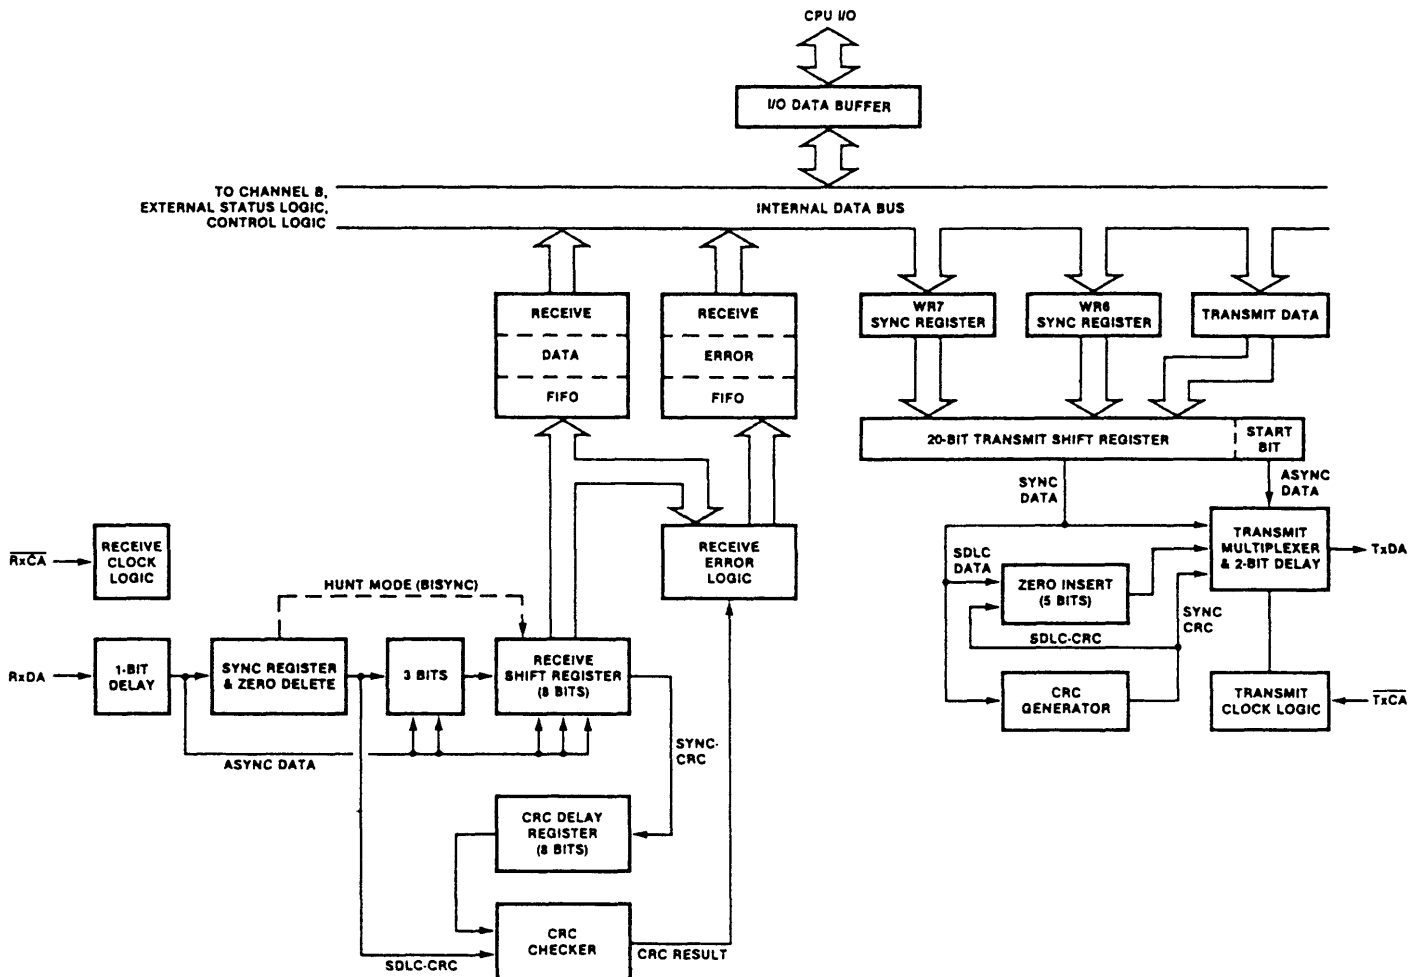

Figure 12. Transmit and Receive Data Path (Channel A)
**Data Path.** The transmit and receive data path illustrated for Channel A in Figure 12 is identical for both channels. The receiver has three 8-bit buffer registers in a FIFO arrangement, in addition to the 8-bit receive shift register. This scheme creates additional time for the CPU to service an interrupt at the beginning of a block of high-speed data.